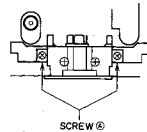
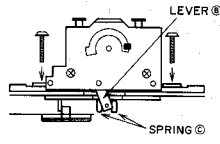

Fig. 3-3
Fig. 3-4
- 1) Remove two screws ④, then remove HEAD BLK.
- 2) When reassembling the HEAD BLK, be sure that the LEVER ⑤ is set into the SPRING ⑥ as shown Fig. 3-4, then secure two screws ④ as shown Fig. 3-3.